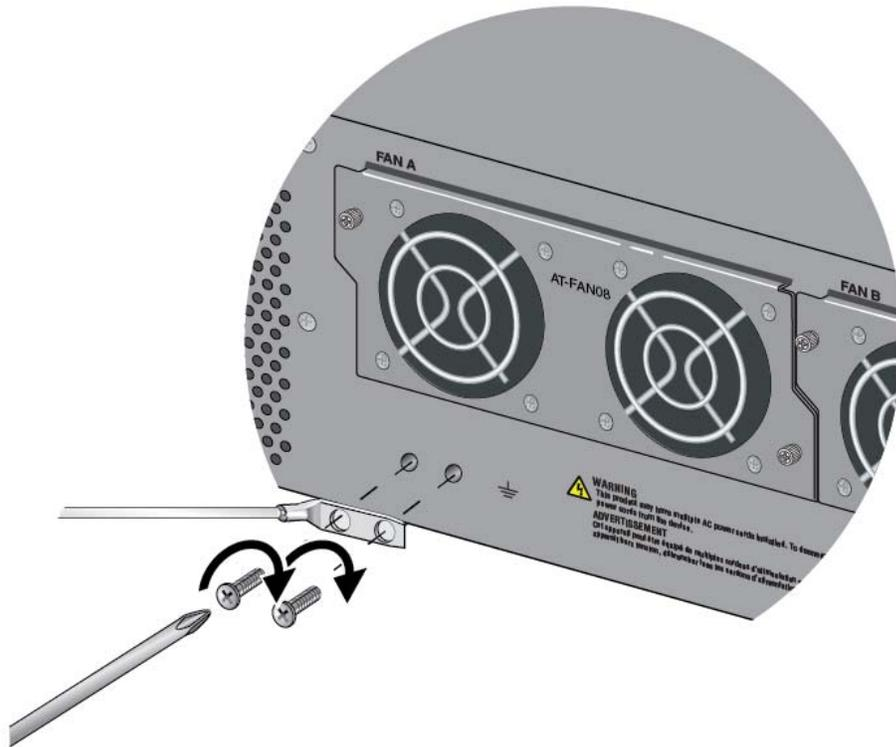

Figure 46. Installing the Grounding Lug and Wire
4. Install the grounding lug on the rear panel of the chassis. Refer to Figure 46 on page 100.